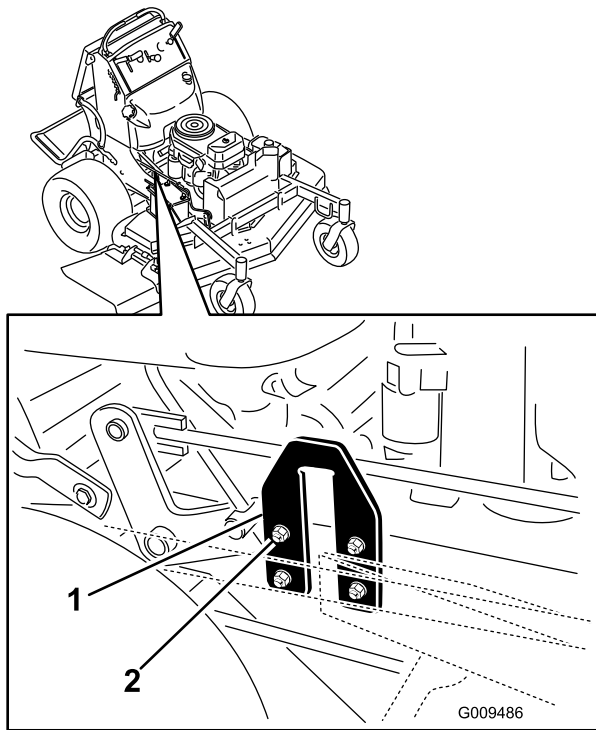

Figure 78
2. Locate the U-plates on the side of the engine deck (Figure 78).
3. Loosen the U-plate on one side and adjust it up or down to make the difference between measurements **B** and **C** no more than a 1/4 inch (6 mm) (Figure 78).